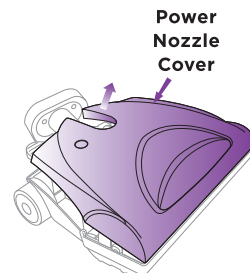

Fig. 20
- 3 Turn the power nozzle over and remove the power nozzle cover. (Fig. 20)